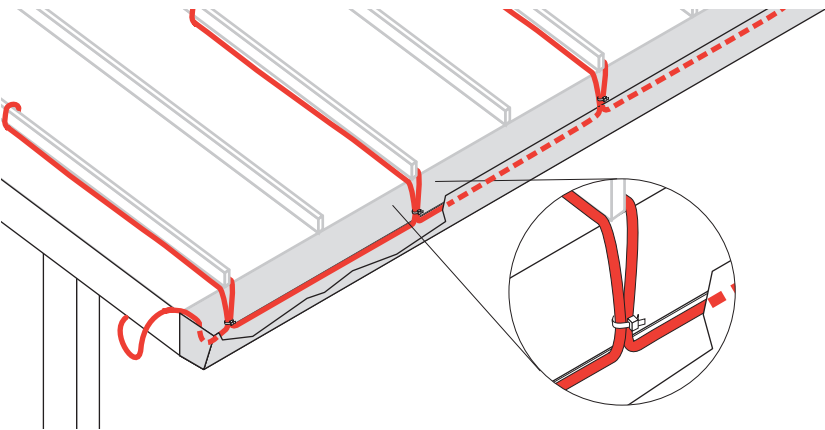

Fig. 8 Layout on a standing seam roof
in Figure 8 and follow the attachment recommendations in “Step 6 Select attachment accessories and method,” page 21. Additional heating cable may be needed for gutters, downspouts, and valleys.
- Run the heating cable up one side of the seam, loop it over to the other side, and return it to the bottom of the gutter. Continue along the bottom of the gutter to the third seam and repeat the process (Figure 8 on page 10). If the seams are more than 24 inches (60 cm) apart, trace every seam.
**Note:** Attachment methods are not shown in Figure 8. For attachment methods, proceed to “Step 6 Select attachment accessories and method,” page 21.